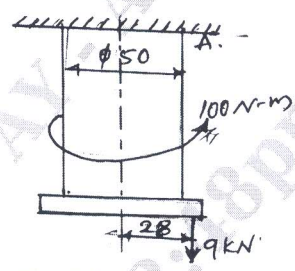

Fig.Q1(c) (10 Marks)
- c. A 50mm diameter steel rod supports a load of 9 kN and in addition is subjected to torsional moment of 100 N-m. Determine the maximum tensile and maximum shear stress. [Refer Fig.Q1(c)]